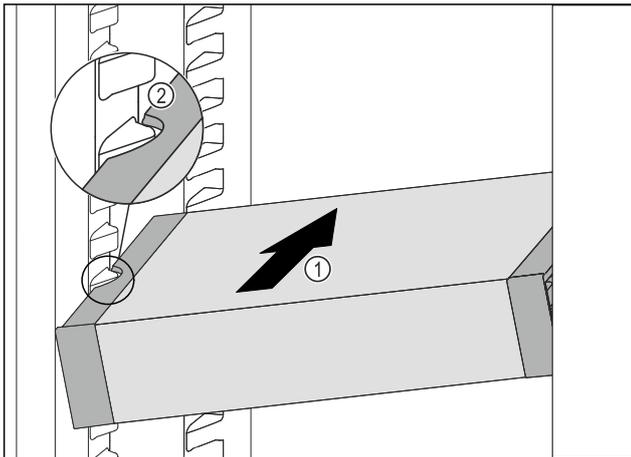

Fig. 76
- ▶ Insert the VarioSafe into the fridge section at an angle Fig. 76 (1) until the recesses in the side Fig. 76 (2) of the VarioSafe are at the level of the support rib in the fridge section.